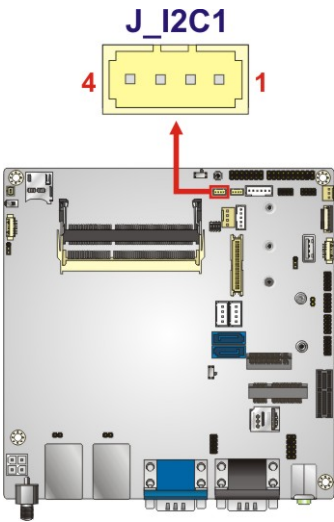

Figure 3-10: I2C Connector Pinout Locations
- CN Location: See Figure 3-10